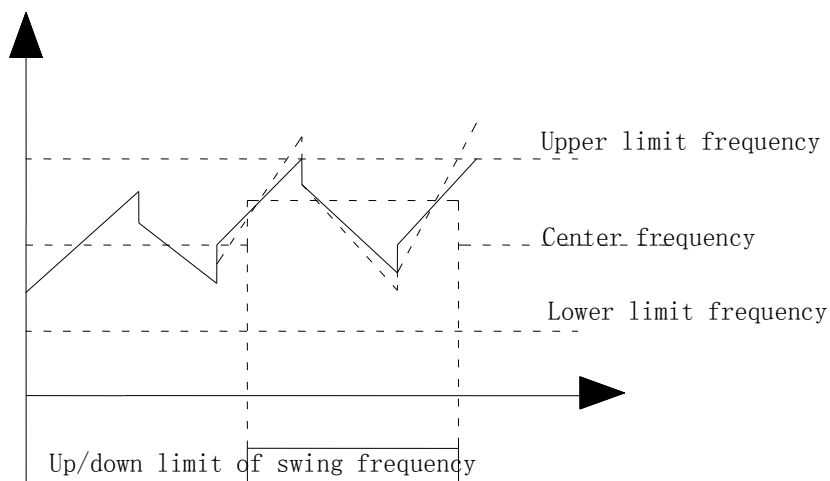

Fig.4-25 Upper and lower limit of swing frequency
**19: Upper and lower limit of swing frequency.** An indicate signal will be output if the swing frequency range calculated by center frequency exceeds the upper/lower limit frequency. See Fig 4-25.